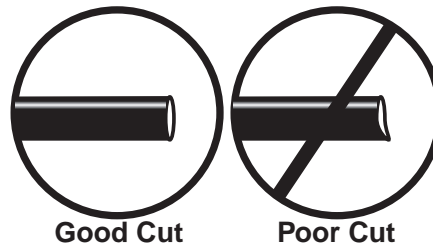

fig. 29
WHEN CUTTING OR TRIMMING THE AIR LINE, USE A HOSE CUTTER, A RAZOR BLADE OR A SHARP KNIFE. A CLEAN, SQUARE CUT WILL PREVENT LEAKS. DO NOT USE WIRE CUTTERS OR SCISSORS TO CUT THE AIR LINE. THESE TOOLS MAY FLATTEN OR CRIMP THE AIR LINE, CAUSING IT TO LEAK AROUND THE O-RING SEAL INSIDE THE ELBOW FITTING (FIG. 29)
7. Cut off the air line leaving approximately 12" of extra air line. A clean square cut will prevent leaks (see fig. 29). Insert the air line into the air fitting. This is a push to connect fitting. Simply push the air line into the 90° swivel fitting until it bottoms out (9/16" of air line should be in the fitting).
- a. Check the air line connection by deflating the spring and removing the line by pulling the collar against the fitting and pulling firmly on the air line. Trim 1" off the end of the air line. Be sure the cut is clean and square (see fig. 29). Reinsert the air line into the push-to-connect fitting.